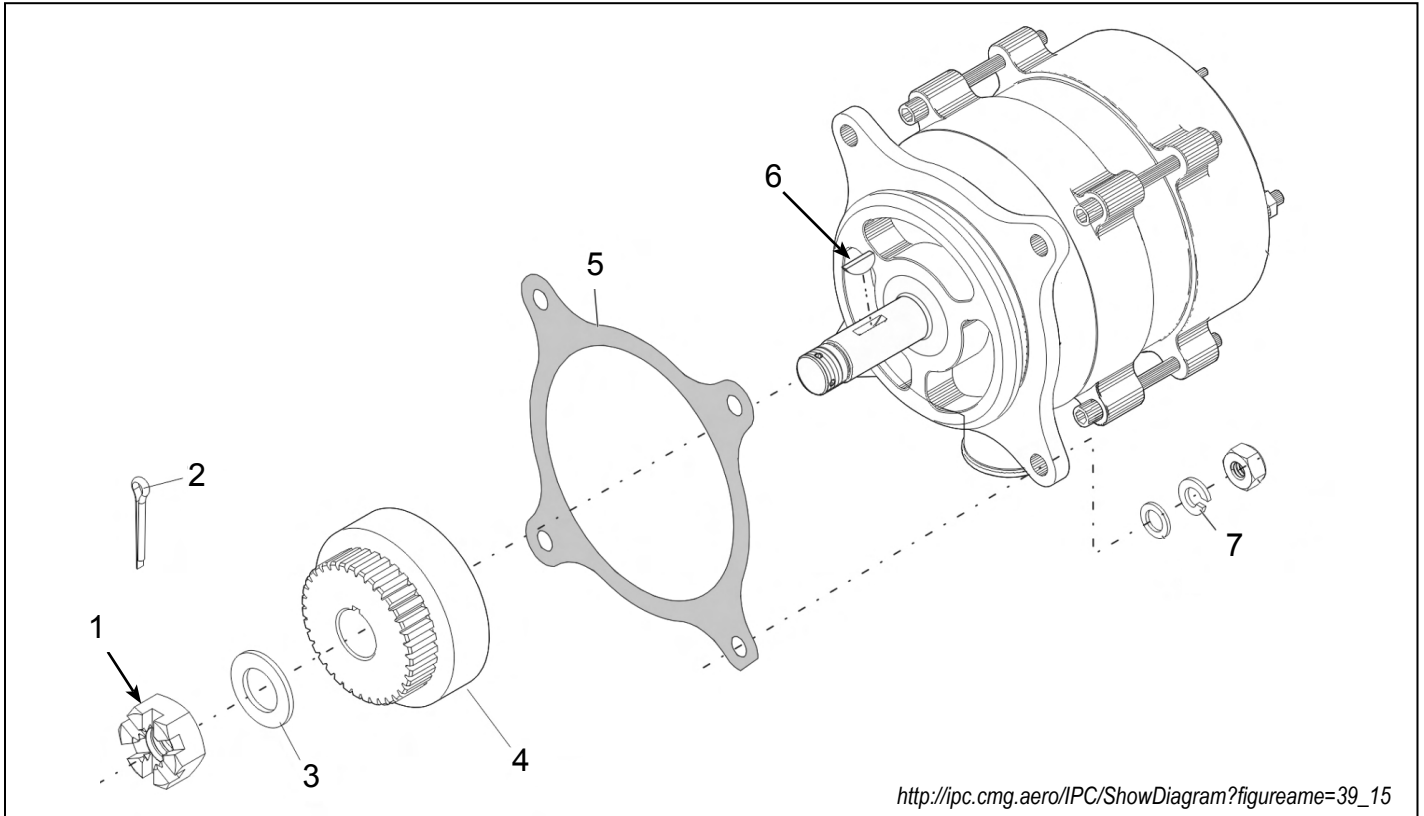

Figure 1 - Alternator, Typical - Continental Aerospace Technologies
- (1) Alternators listed in section 1.A could contain a castellated hex-nut (1, Figure 1) that does not torque flush with the thrust washer (3). This condition could compromise the integrity of the drive coupling retention system.
- (2) This ASB is to advise the field of a known condition and to supply inspection criteria to identify affected alternators.
Table 1- Materials Required (Refer to Figure 1)
- (5) Remove and discard from alternator; cotter pin (2), castellated hex-nut (1), thrust washer (3), and woodruff key (6). Refer to Figure 1.
- (6) Inspect drive coupling (4) in accordance with applicable service instructions.
- (7) Install new replacement components not affected by this ASB onto the alternator in accordance with applicable engine manufacturer's maintenance manual. Refer to Table 1 - Materials Required.